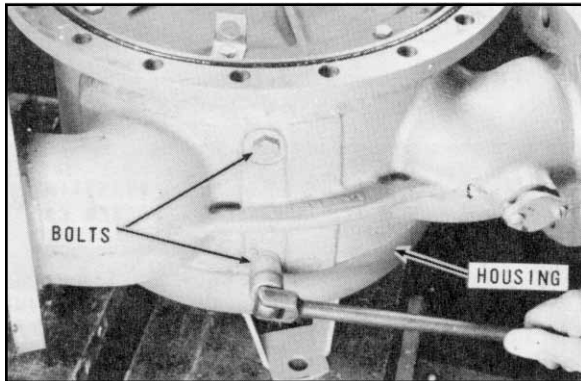

Figure 14 – Removing Body Bolts
1. Take out the bolts that fasten the body to the housing, Figure 14.